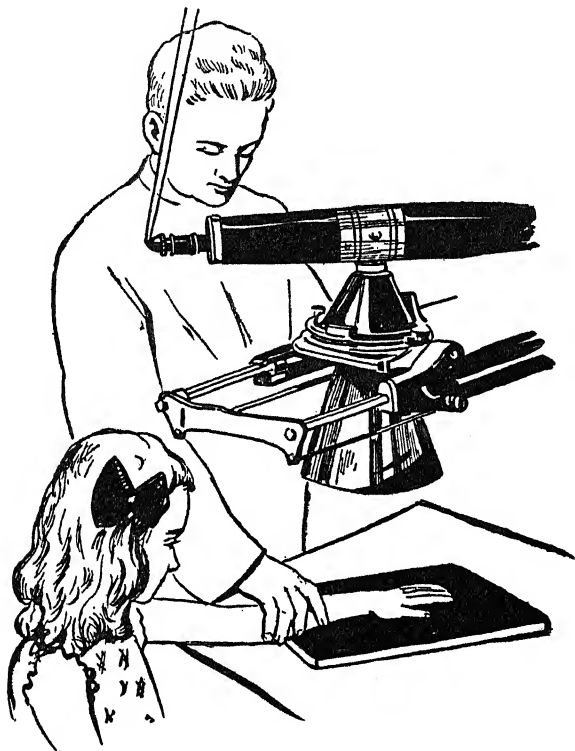

FIG. 88.—TAKING AN X-RAY PICTURE
and for this reason a camera is not needed to take it. The apparatus for taking X-ray pictures is shown in *Fig. 88*, and it consists of (1) an induction coil, or other source of high-tension current, (2) an X-ray tube and (3) a plate or a film in a light-tight holder, or an opaque envelope.⁵